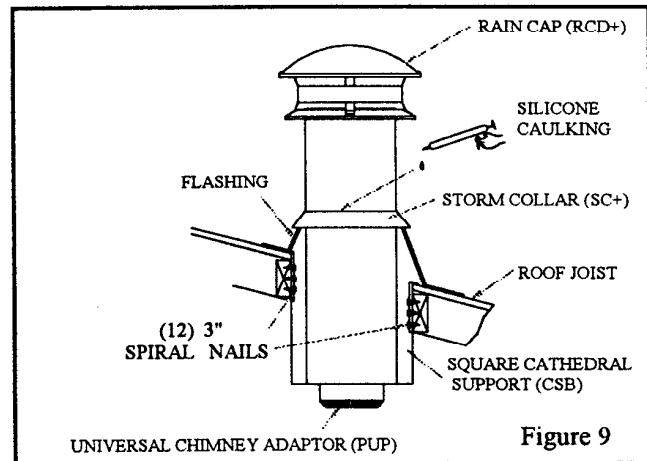

Figure 9
This support is similar in application and installation as the round cathedral support (CS) install it using the instructions on page 5 (refer to Fig. 9 for visual references).